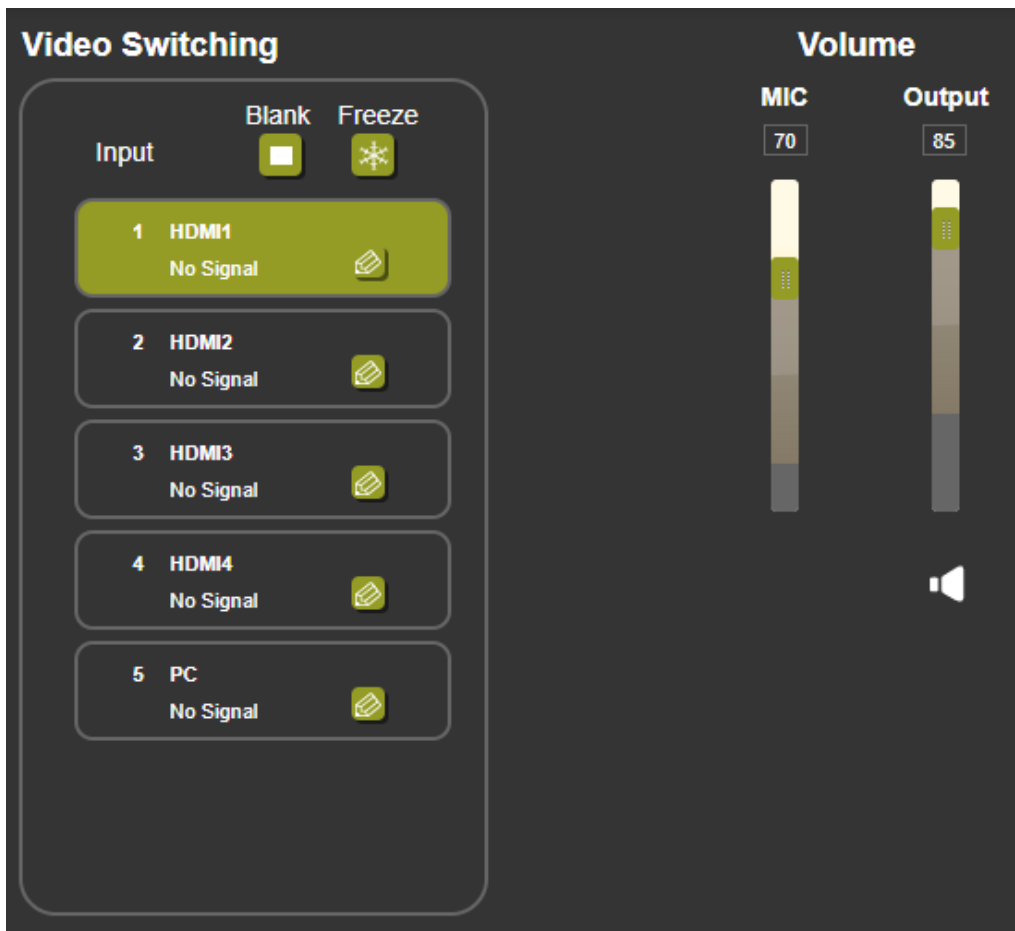

Figure 11: Switching Page
- In the Navigation pane click **Switching**. The Switching page appears. (Figure 11).
1. In the Navigation pane click **Switching**. The Switching page appears (Figure 11).